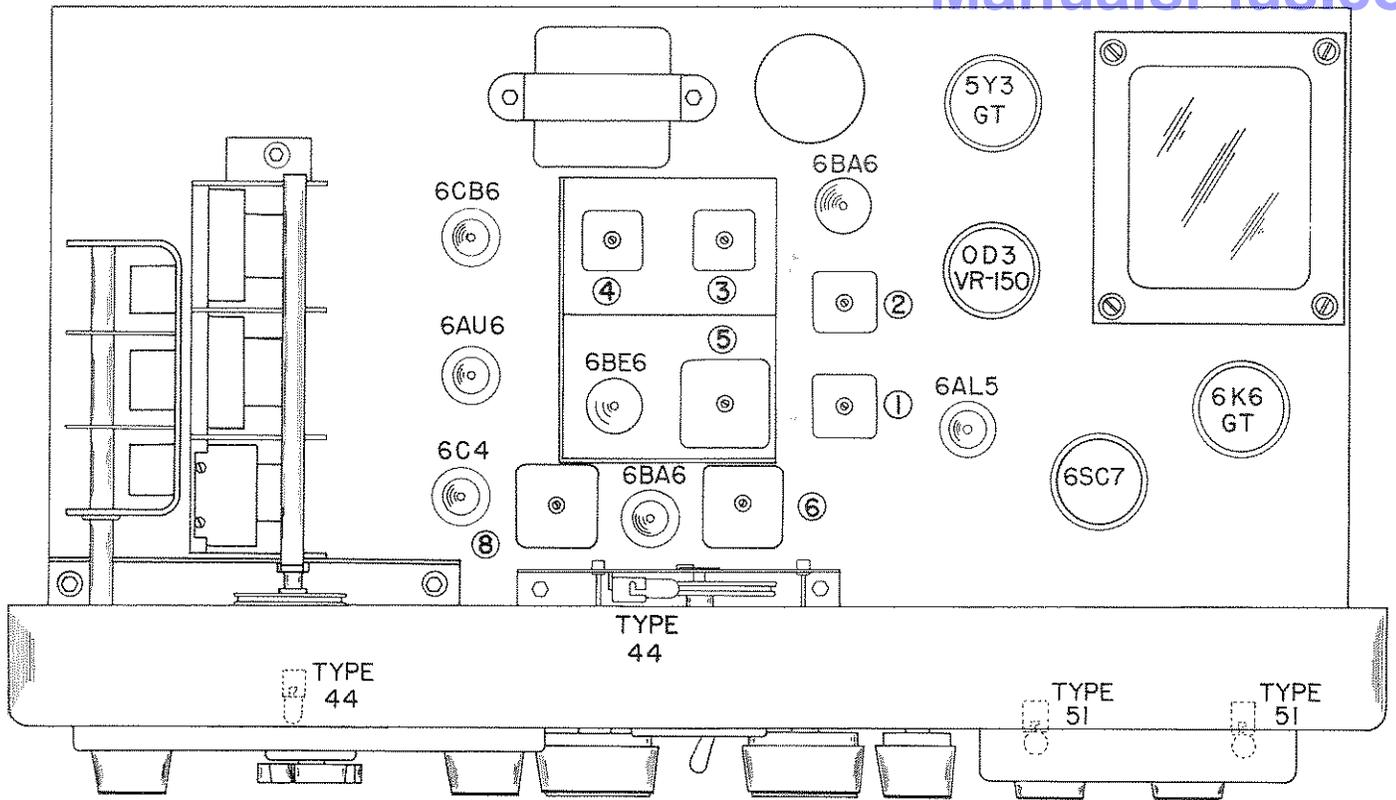

Fig. 9. Top View of Chassis Showing Location of Alignment Adjustments, Tubes and Dial Lamps
**DIAL LAMP REPLACEMENT** - Refer to Fig.9 for the location of the dial lamps used in the receiver. To gain access to defective lamps, open the hinged top cover of the cabinet.
**TUBE REPLACEMENT** - The tube types and their relative location in the receiver are shown in Fig. 9. Access to all tubes is possible by opening the hinged top cover of the cabinet. When installing a replacement octal tube, insert the center guide pin into the center hole of the tube socket, rotate the tube until the key on the guide pin drops into the notch in the socket hole and push down until the base of the tube rests firmly on the socket. A slightly different technique must be used on the miniature tubes. They have seven small pins which must be lined up with the socket holes before pushing the tube into place. Handle all tubes with care as they are fragile and will not withstand mechanical abuse.
The I-F alignment should be made with the main tuning and bandspread tuning capacitors meshed half way, VOLUME, TONE and SENSITIVITY controls fully clockwise, NOISE LIMITER and AVC switches at OFF, RECEIVE/STANDBY switch at RECEIVE, CW/AM switch at AM and the BAND SELECTOR switch at 2. Refer to Figs. 9 and 10 for the location of all adjustments.
The R-F alignment should be made with the BANDSPREAD, VOLUME, TONE and SENSITIVITY controls fully clockwise, NOISE LIMITER and AVC switches at OFF, RECEIVE/STANDBY switch at RECEIVE, CW/AM switch at AM and the SELECTIVITY control at 3. Refer to Figs. 9 and 10 for the location of all adjustments.